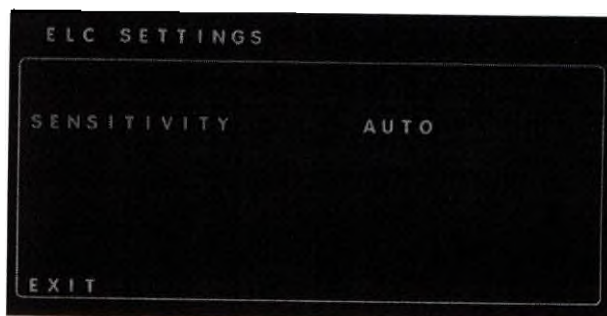

Figure 42. ELC Settings
1. Navigate to **ELC Settings** and press **Select** to select it. The **ELC Settings** screen (Figure 42) opens.